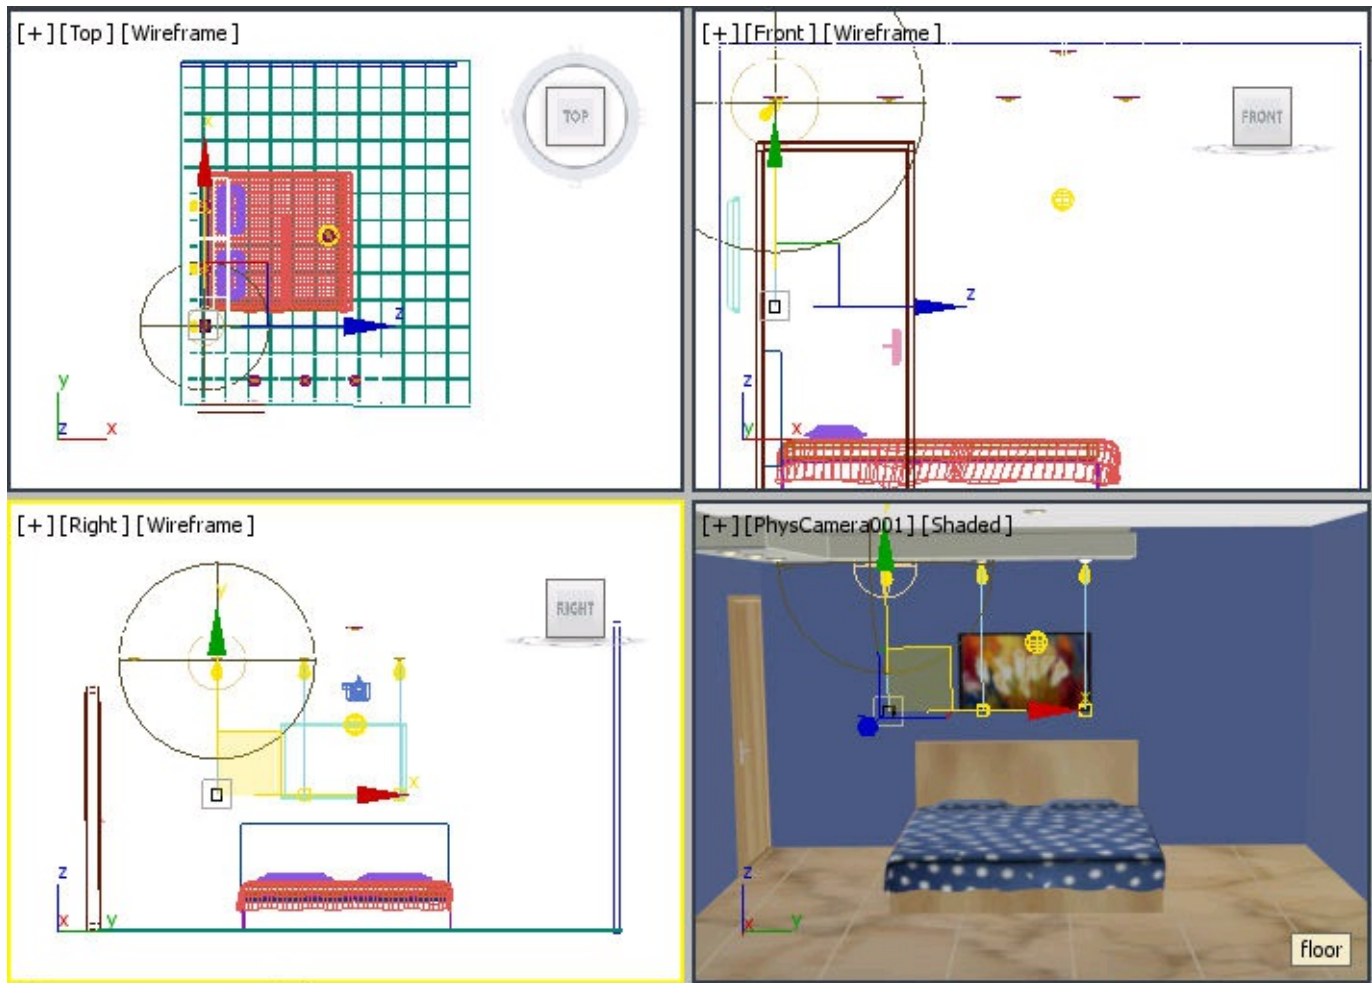

Figure 13-77 Copies of spot light1 and spot light1.Target aligned in the viewports
18. Activate the Right viewport and select *spot light1* and *spot light1.Target*. Next, press and hold the SHIFT key and drag the cursor to the adjacent lamp holder located at the left of *spot light1*. Release the left mouse button; the **Clone Options** dialog box is displayed. In this dialog box, select the **Copy** radio button. Set the value **2** in the **Number of Copies** spinner and choose the **OK** button; two copies of *spot light1* and *spot light1.Target* are created in the viewports. Next, choose the **Select and Move** tool and align these lights in the viewports, as shown in Figure 13-77.